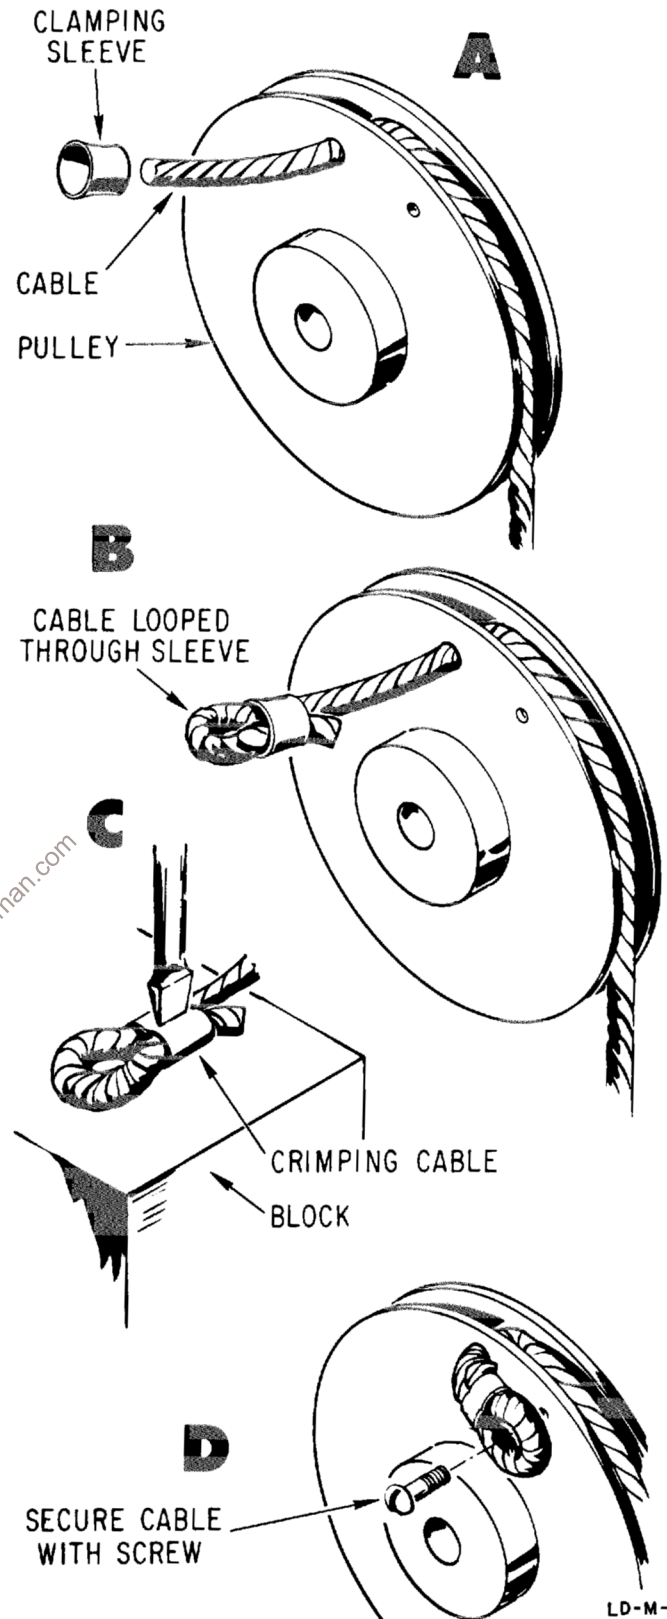

Figure 4-7. Installation of Eyelets on Plastic Coated Cable
b. Insert free end of 11-inch cable through hole A of drive pulley and form loop in end of cable as directed in Figure 4-7.
d. Repeat steps b and c using the 15-inch cable. Start at C and finish at D on the small drum as shown in Figure 4-7.
The replacement cables are supplied from the factory with a loop formed in one end. The other end is not looped since it is necessary to thread this end through a hole in the pulley before the loop is formed. (See A of Figure 4-7.)
Crimp center of eyelet as shown in C of Figure 4-7 with a screwdriver and a hammer.
Cable is now ready to be attached to the pulley using the small screw previously removed. (Refer to D of Figure 4-7.)